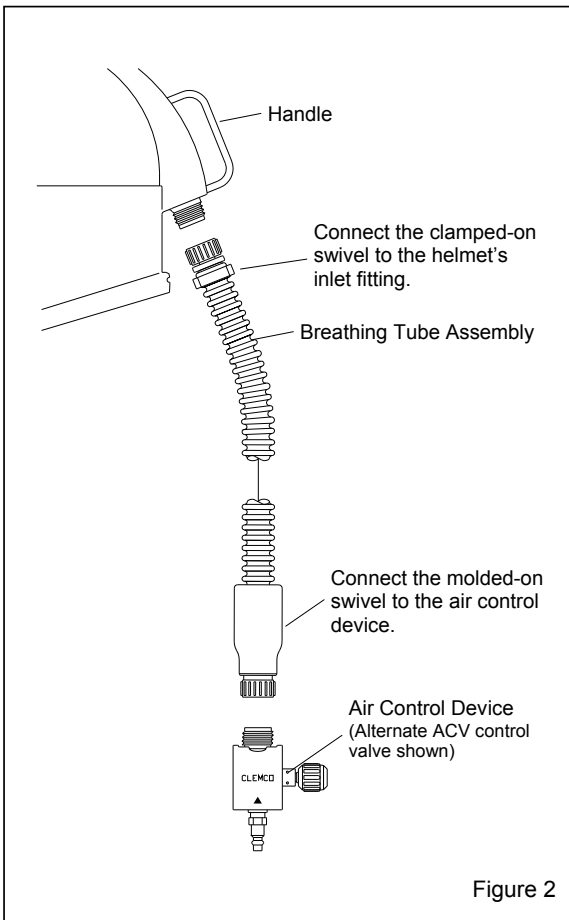

Figure 2
**3.3.1** The breathing tube has a clamped-on end and a molded-on end. Attach the clamped-on end to the threaded air inlet fitting at the back of the helmet as shown in Figure 2. Do not over-tighten; hand-tight is sufficient.